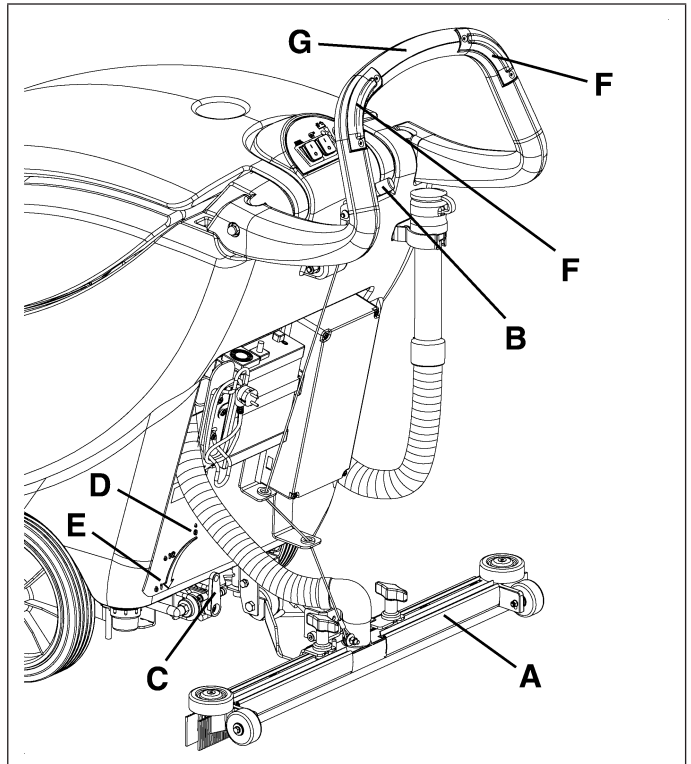

Figure 15
2. Lower the squeegee (A, Fig. 15) by pushing the lever (B) downwards.
3. Turn the solution flow control lever (C, Fig. 15) to one of the following positions, according to the type of cleaning to be carried out:
- **ECO system:** When the lever (C, Fig. 15) is in the “ECO” position (D), the machine works in a special condition of programmed water “economy” usage; as the water flow is set and constant, the machine can work with a cleaning time of 70-80 minutes [0.08 gal/min (0.3 liters/min)].
- **Variable system:** When the lever is turned to the left (variable flow), it is possible to increase the capacity up to 0.26 gal/min (1 liter/min) (E, Fig. 15).
5. While keeping both hands on the handlebar (G, Fig. 15), start the machine by pressing one or both the activation switches (F).
6. Release the switches (F, Fig. 15).
8. Lift the squeegee by pushing the lever (B, Fig. 15) completely upwards.